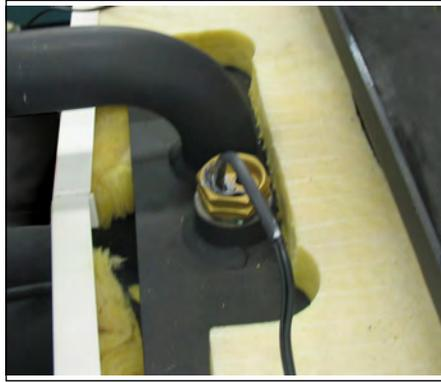

Figure 2-14
22. Coat outlet feed water temperature sensor (the 3-wire sensor) with heat-conductive compound P/N 872-00631. Insert sensor in sensor well behind the burner (**Figure 2-14**).